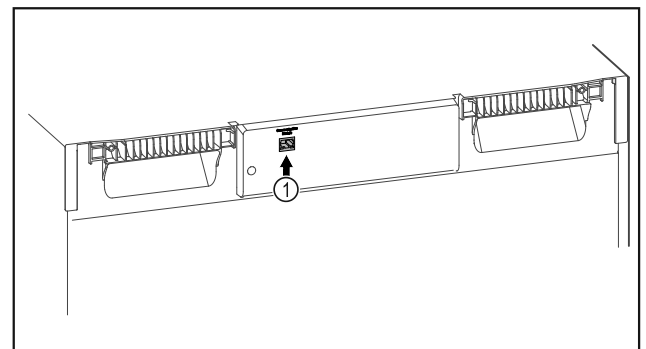

Fig. 123
- ❑ SmartModule Fig. 123 (1) is in use.